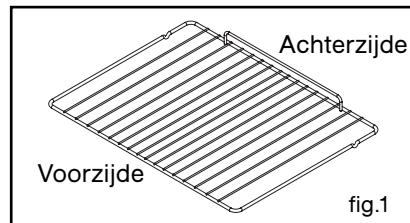

fig.1
• Rooster met kantelbeveiliging (fig.1)